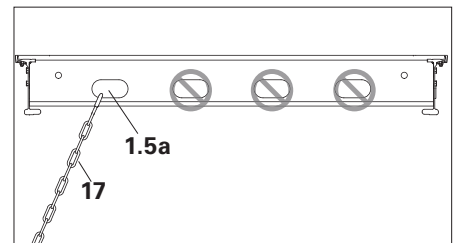

Fig. A10.05b
- Attach anchor chain (17) only on the first slot (1.5a) provided on the outermost cross strut C of the Panel ADP (1) (Fig. A10.05b)